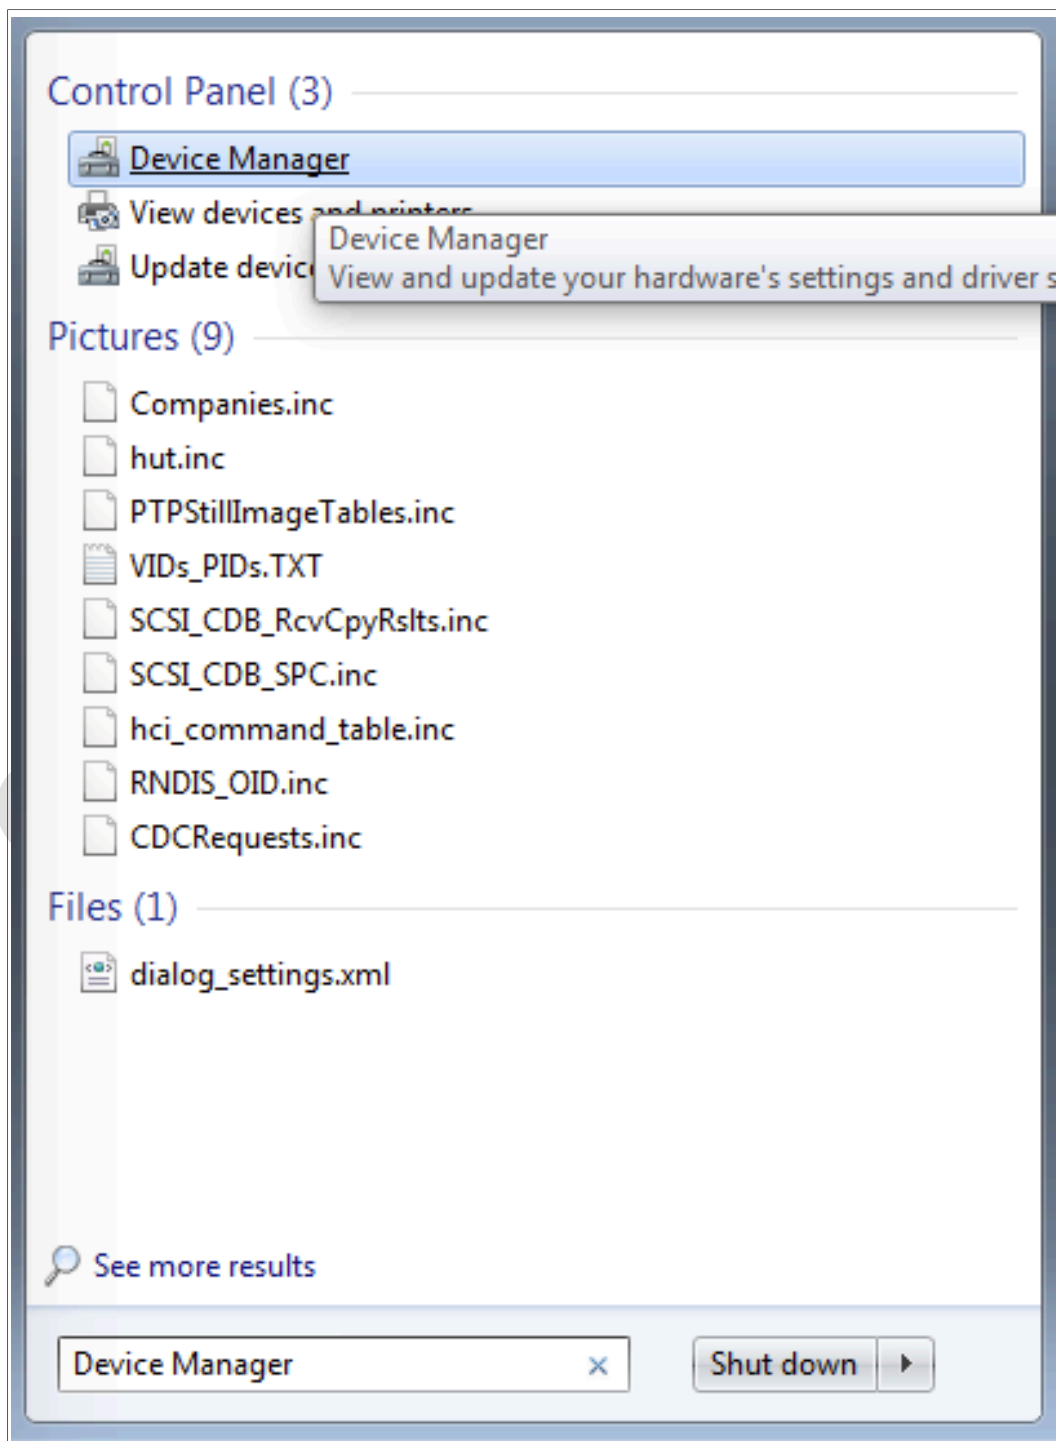

Figure 23. Device Manager
1. To determine the COM port, open the Windows operating system Device Manager. To open the manager, go to the Windows operating system **Start** menu and type **Device Manager** in the search bar, as shown in Figure 23.